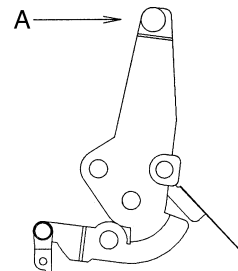

Fig.1 How to release the tension band when measuring the VS-REW winding torque
- (1) Remove the cassette controller, turn ON the down SW while referring to 9-3, operate in the test mode (T01) and select the VS-REW mode.
- (2) Set the torque gauge in the S reel table, push the tip of the tension pole with your finger in the direction shown by Arrow A to release the tension band, and check that the winding torque is within spec. (Fig.1) (Do not apply the own weight of the torque gauge or rotate it during measurement.)
When measuring the height of the S reel table, push the tip of the tension pole with your finger in the direction shown by Arrow A to release the tension band. (Fig.1)